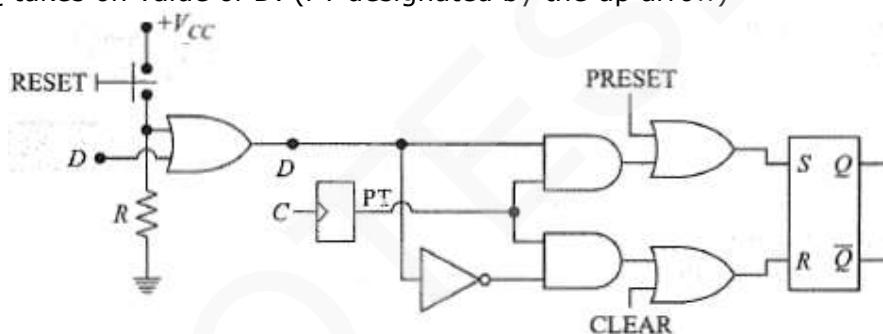

Figure 8.22: PRESET and CLEAR functions
- As shown in Fig. 8.22, the operator has to press a RESET button to start the computer.